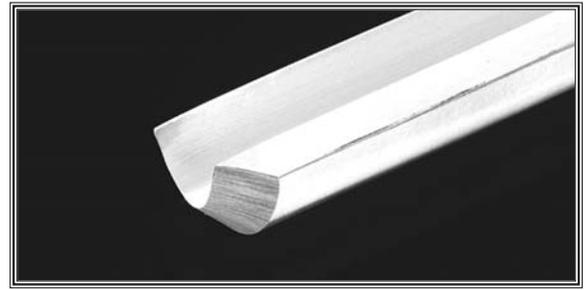

Figure 14. Gouge.
- **Gouges**—Mainly used for rough cutting, detail cutting, and cove profiles. The rough gouge is a hollow, double-ground tool with a round nose, and the detail gouge is a hollow, double-ground tool with either a round or pointed nose. **Figure 14** shows an example of a gouge.